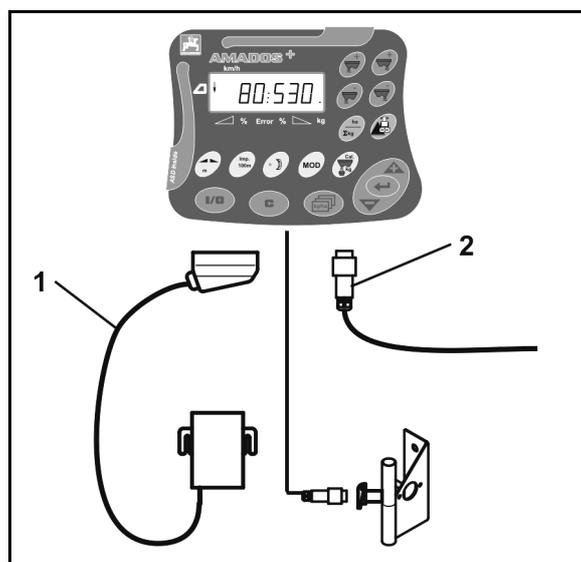

Fig. 2
1. Connect the machine mounted/attached to the tractor via the machine connector (Fig. 2/1).
2. Connect the signal cable from the tractor signal socket or the sensor X (Fig. 2/2) to the **AMADOS⁺**.